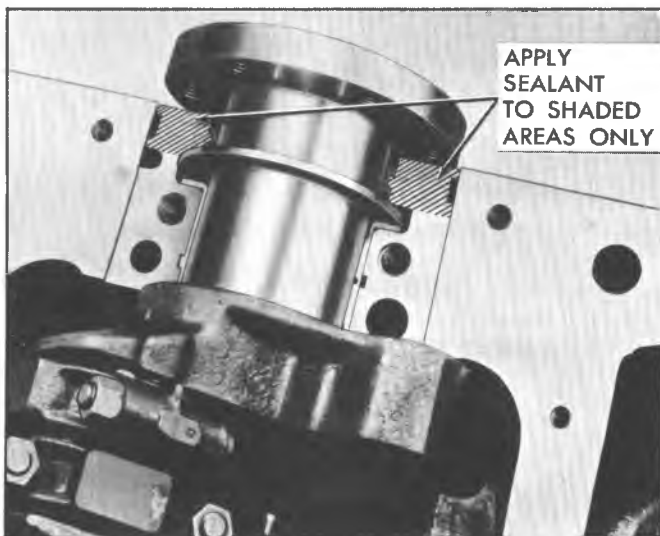

Fig. 4—Sealing Bearing Cap and Block
- e. Apply a thin coat of brush-on type oil sealing compound to block mating surface and corresponding surface of cap only (fig. 4). Do not allow sealer on crankshaft or seal.